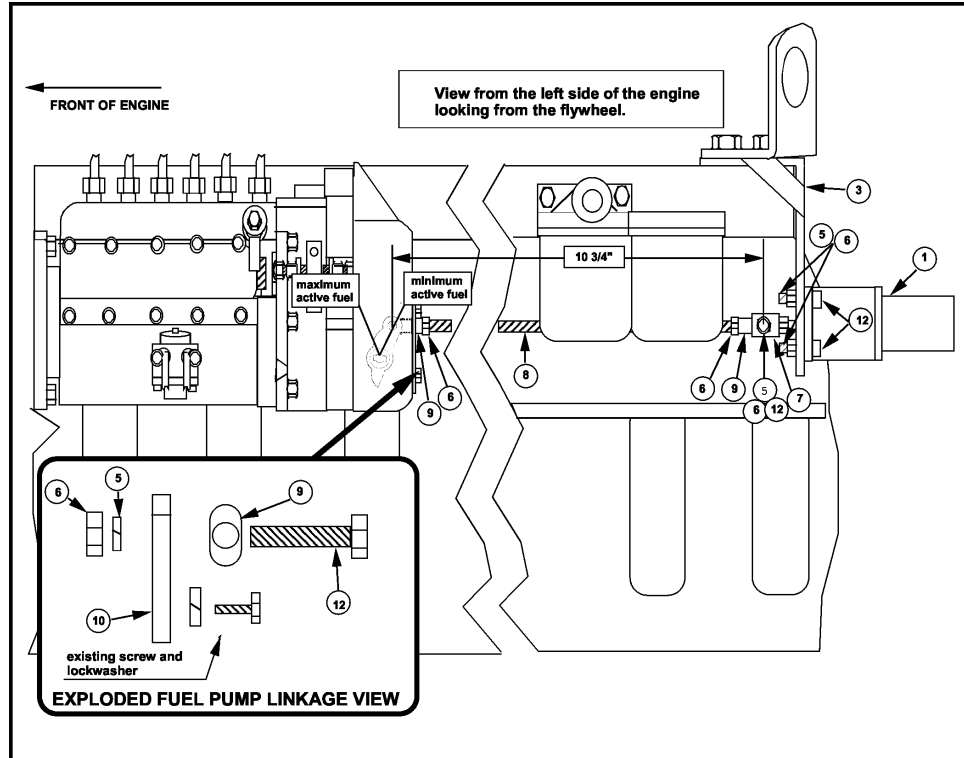

Figure 1—Layout Drawing
2. Refer to Figure 1 and install the actuator mounting bracket (item 3) underneath the lifting eye using the original mounting screws.
3. Mount the actuator (item 1) onto the mounting bracket with four hex head cap screws, four lockwashers, and four hex nuts (items 12, 5 & 6).
1. Referring to Figure 1, install the clevis (item 7) onto the actuator shaft and tighten the M6 nut against the back side of the clevis.
2. Install the fuel shut off lever (item 10) onto the fuel pump using the original screw and lockwasher that were previously removed.
4. Assemble the linkage rod by placing one hex nut (item 6) and one rod end bearing (item 9) to each end of the threaded rod (item 8).
5. Connect one rod end bearing to the shut off lever using one screw (item 12), one lockwasher (item 5) and one hex nut (item 6).
8. Tighten both rod jam nuts against the rod end bearing while holding the clevis in the correct position as shown in Figure 1.